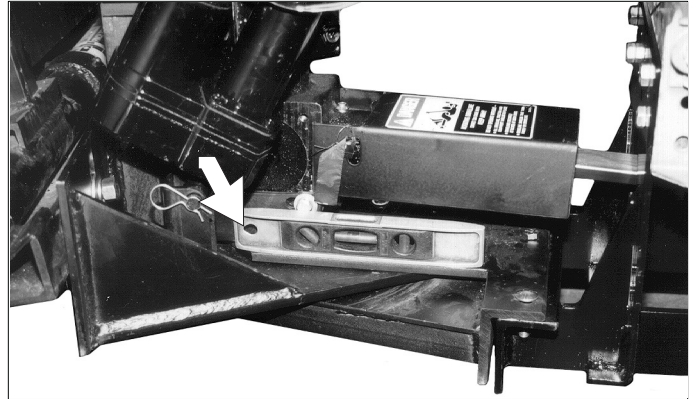

figure 1
3. Level the drive assembly using a level (figure 1).